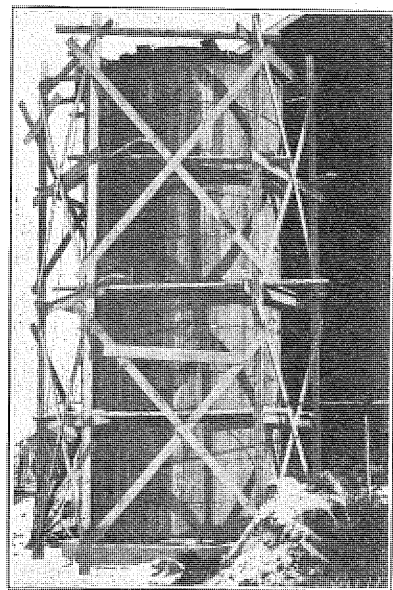

FIG. 7.—COMPLETE SCAFFOLDING FOR A STAVE SILO
36. How shall the scaffolding be built? In Figure 7 the uprights are made of 2×4 's set 3 feet outside the foundation wall. Each pair of uprights is fastened together by two diagonal braces. About 7 feet from the ground nail 1×4 inch boards, 8 feet long, on each pair of uprights. These horizontal boards should be kept as nearly level as possible. Planks are now laid on these horizontal boards so that they can be used to walk around on. New braces and horizontal boards can then be added to the scaffold as they are needed.